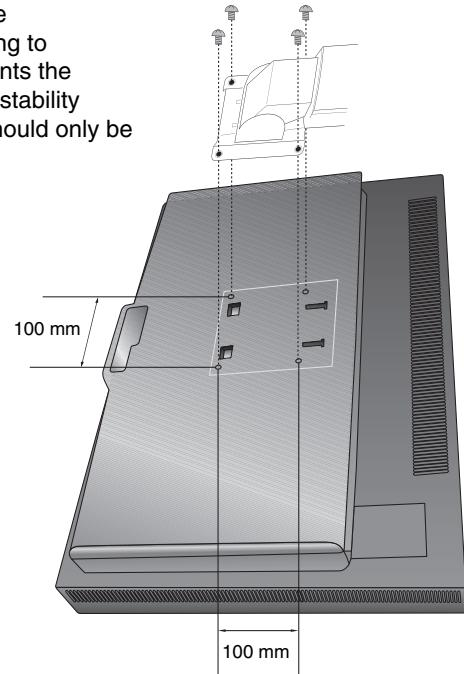

Figure F.1
2. Use the 4 screws and attach the arm to the monitor (**Figure F.1**).